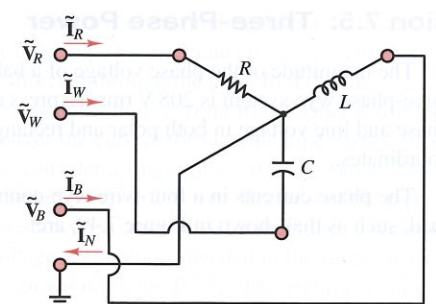

Figure P7.61
7.61 For the three-phase network shown in Figure P7.61, find the current in each wire and the real power consumed by the wye network. Let $\tilde{V}_R = 110\angle 0^\circ$ V rms, $\tilde{V}_W = 110\angle 2\pi/3$ V rms, and $\tilde{V}_B = 110\angle 4\pi/3$ V rms. $R = 50 \Omega$, $L = 120$ mH, $C = 133 \mu\text{F}$, $f = 60$ Hz.